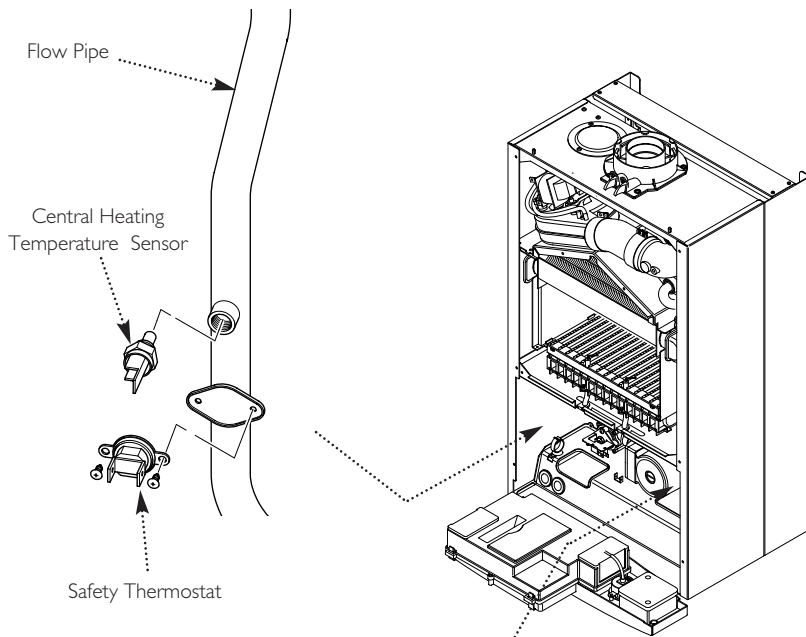

Fig. 66
14.9 Central Heating Temperature Sensor (Fig. 66)
14.10 Safety Thermostat (Fig. 66)